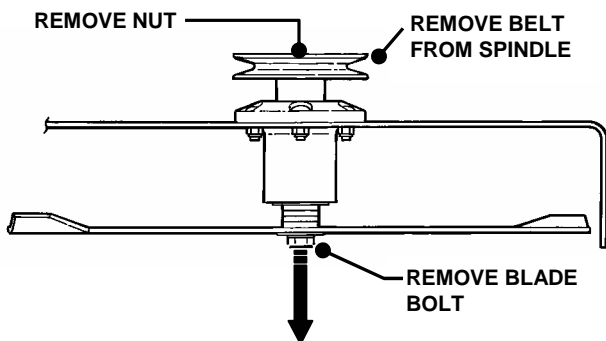

FIGURE 4.5
1. Remove belt. Loosen blade nut and remove. Allow blade bolt, washer, blade and four spacers to drop down out of the spindle housing. See Figure 4.5.